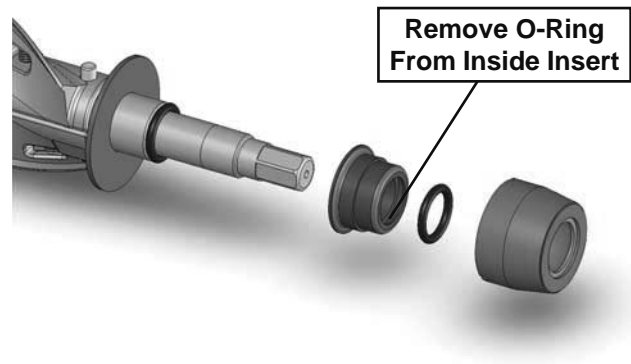

Figure 3-6 Rear Seal Removal
5. Wipe spline lubricant off of the hex end of auger with a paper towel. Remove the rear seal assembly (Fig. 3-6).